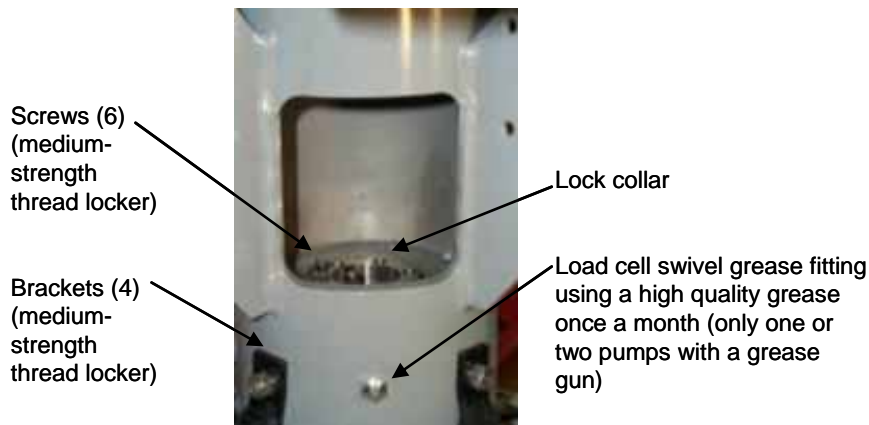

Figure 96. Mounting brackets and lock flange attached to strike plate.
3. Attach the load cell to the strike plate by using a guide tool to center the load cell on the swivel collar, which is essential for correct alignment (figure 96). Grease the load cell swivel monthly. It does *not* require a large amount of grease; one or two pumps from a hand-held grease gun with high-grade grease are sufficient. Failure to grease the load cell swivel can result in load cell calibration errors.